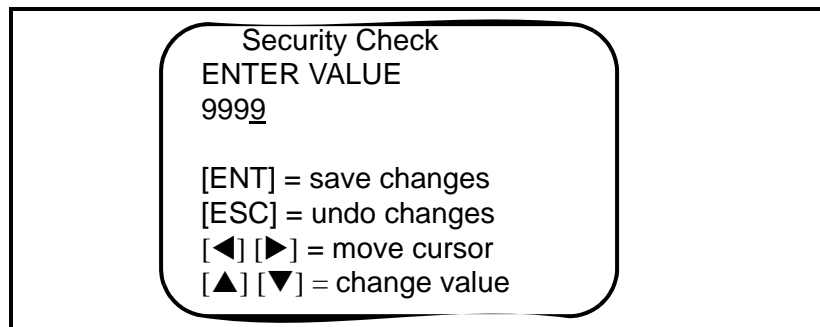

Figure 2-2: Security Check Window
1. Press [ESC], [ENT], [ESC]. A Security Check window, similar to Figure 2-2 below, opens.